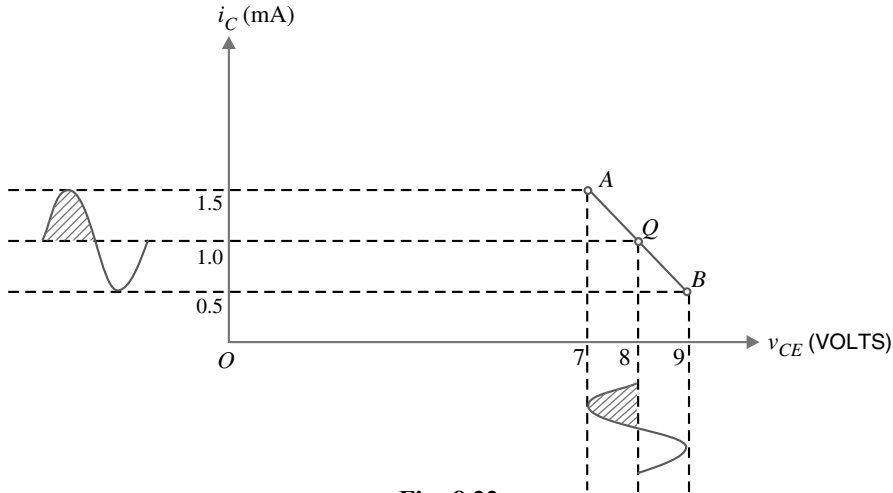

Fig. 8.22
**Solution.** Fig. 8.22 shows the whole process. When no signal is applied,  $v_{CE} = 8V$  and  $i_C = 1mA$ . This is represented by the operating point  $Q$  on the a.c. load line. During the positive half-cycle of a.c. signal,  $i_C$  swings from  $1mA$  to  $1.5mA$  and  $v_{CE}$  swings from  $8V$  to  $7V$ . This is represented by point  $A$  on the a.c. load line. During the negative half-cycle of the signal,  $i_C$  swings from  $1mA$  to  $0.5mA$  and  $v_{CE}$  swings from  $8V$  to  $9V$ . This is represented by the point  $B$  on the a.c. load line.